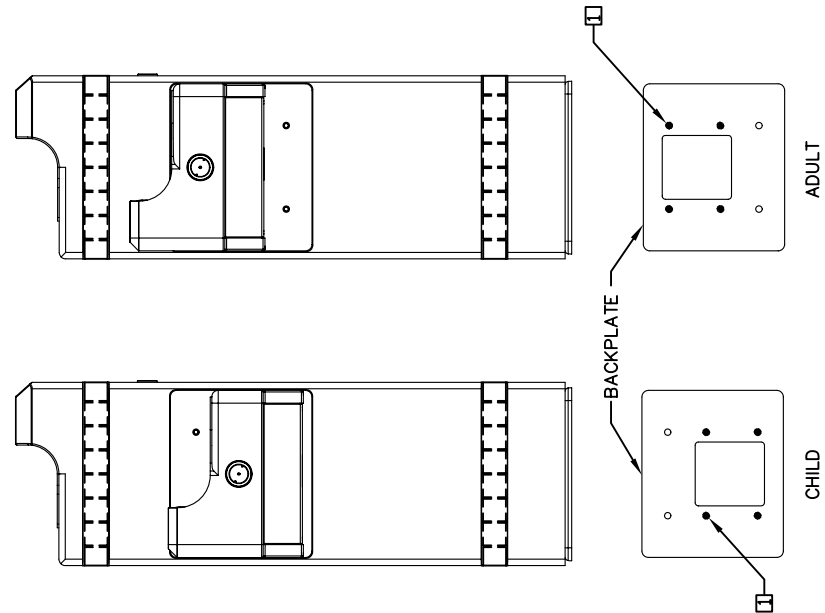

FIGURE 1
- BASED ON DESIRED HEIGHT (CHILD OR ADULT) OF ARM. ORIENT BACKPLATE AS SHOWN IN FIGURE 1 AND USE APPROPRIATE SHADED HOLES.